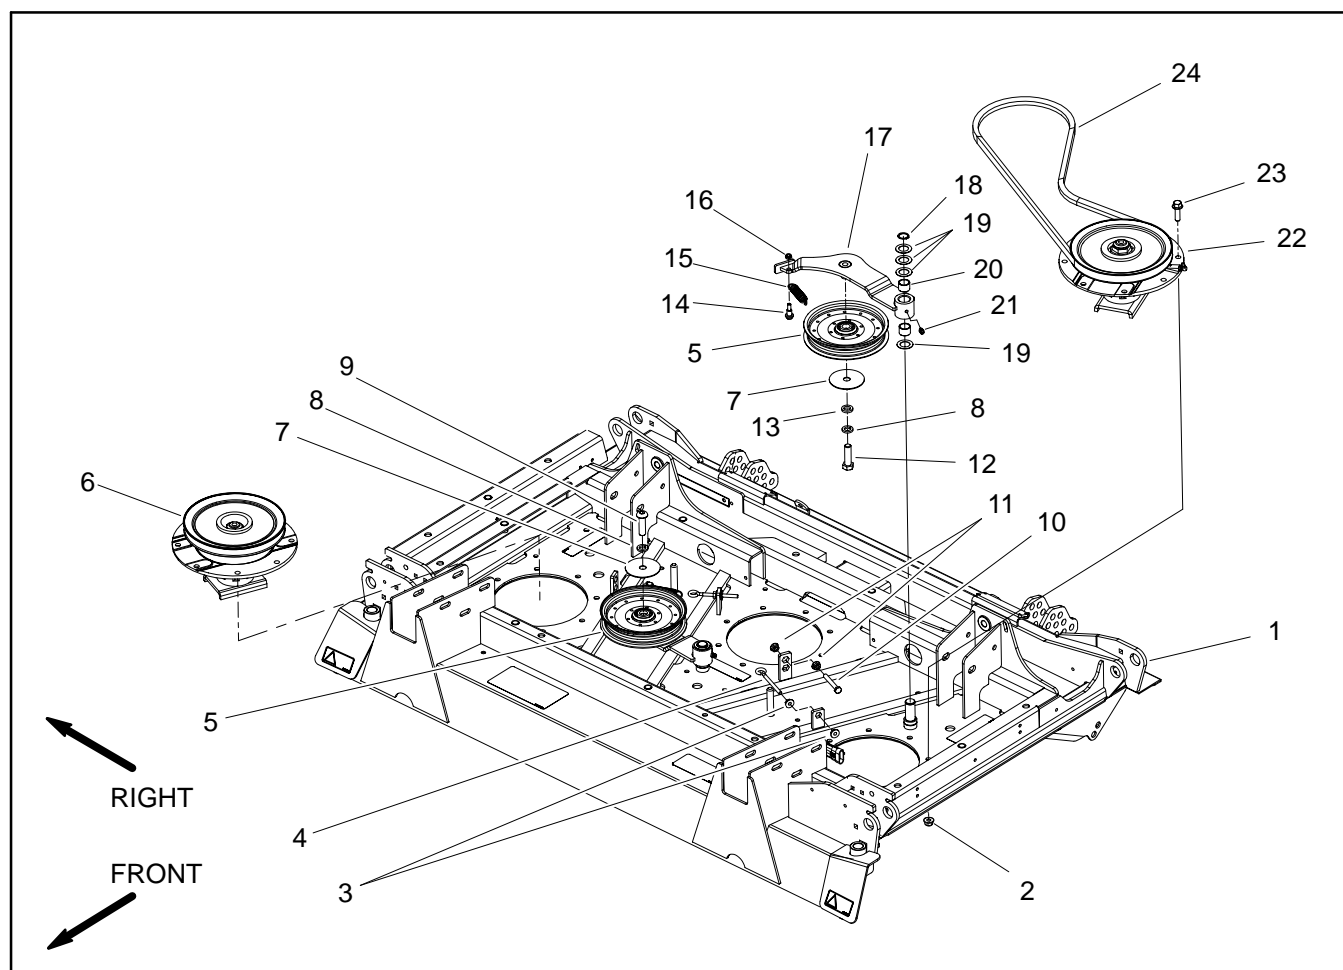
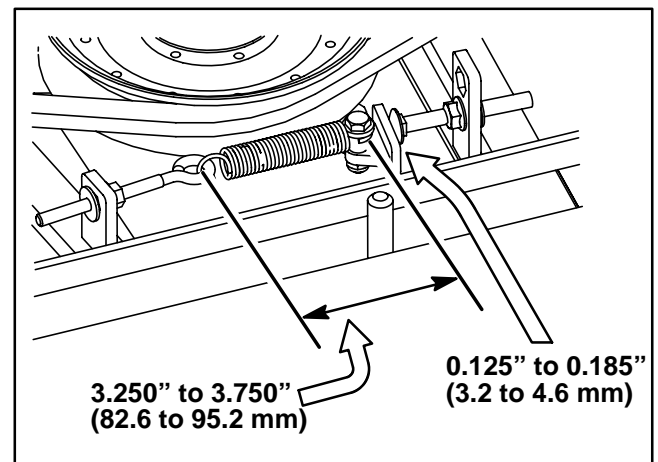

Figure 20
Figure 21
NOTE: The center deck is shown in Figure 20. The idler assemblies used on the wing decks use the same idler components.
Removal (Fig. 20)
3. Use spring hook tool to unhook the idler spring (item 15) from the adjusting screw (item 4).
5. Loosen flange nuts (item 11) that secure idler stop bolt (item 10) to cutting deck to allow clearance between idler arm and stop bolt.
6. Remove idler components as needed using Figure 20 as a guide. Note location of washers, idler spacer and screw as idler assemblies are being removed.
Installation (Fig. 20)
1. Install removed idler components using Figure 20 as a guide.
- A. Make sure that one (1) thrust washer (item 19) is placed below the idler arm and three (3) thrust washers are placed between the idler and retaining ring location.
- C. If idler stop bolt (item 10) was removed from deck, make sure that it is installed in the hole that allows the stop bolt head to align with the idler arm.
3. Use spring hook tool to attach the idler spring (item 15) onto the adjusting screw (item 4) and shoulder bolt on idler arm. With the idler arm tensioning the drive belt, the spring hook to hook length should be from 3.250" to 3.750" (82.6 to 95.2 mm) (Fig. 21). If necessary, disconnect spring and change position of adjusting screw. When idler spring is the correct length, tighten second flange nut to secure adjustment.
4. Adjust location of idler stop bolt (item 10) so that the clearance between idler arm and idler stop bolt head is from 0.125" to 0.185" (3.2 to 4.6 mm) (Fig. 21).